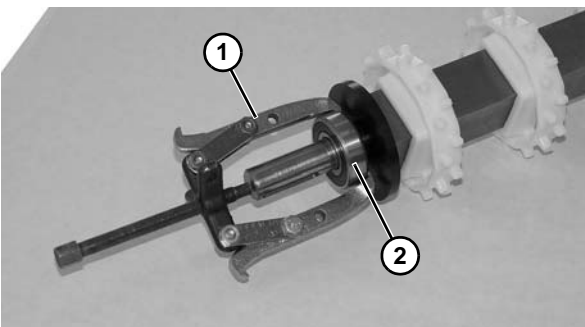

Figure 57
11. Using puller (**Figure 57, item 1**), as shown, remove bearing (**Figure 57, item 2**) from shaft assembly. Repeat on opposite side, if needed.